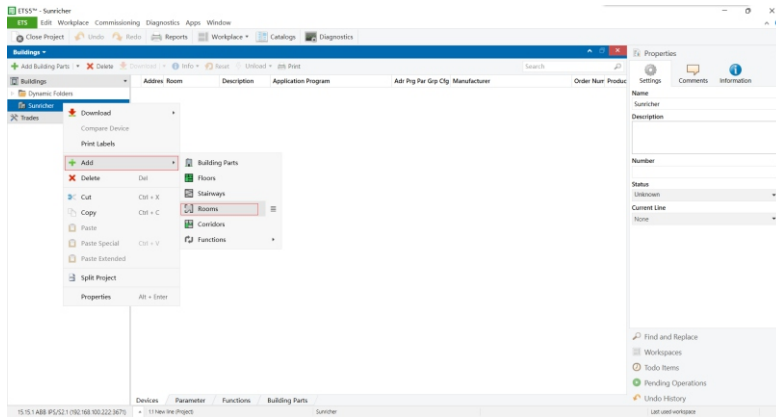

Figure 20
2.7. Right click on the created project name on the left, then click on **“Add”** and **“Rooms”** to add a room to the project, fill out the information and then click on **“OK”** button to create the room as shown in Figure 20 & 21.